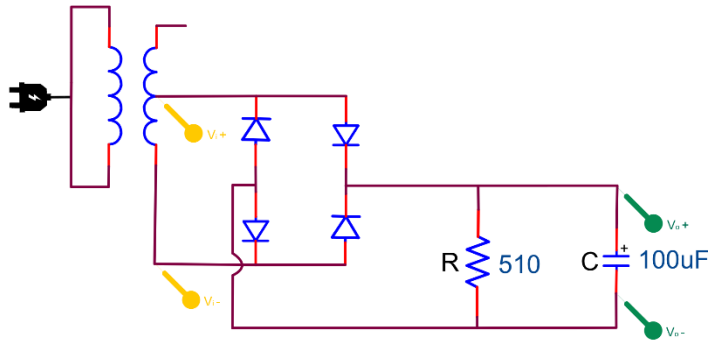

Figure 4.10
6. Construct Figure 4.10, ensure that the polarity of the capacitor is correct, Use the oscilloscope to observe the output voltage and measure the percentage of ripple on this output.
- c. Figure 4.10